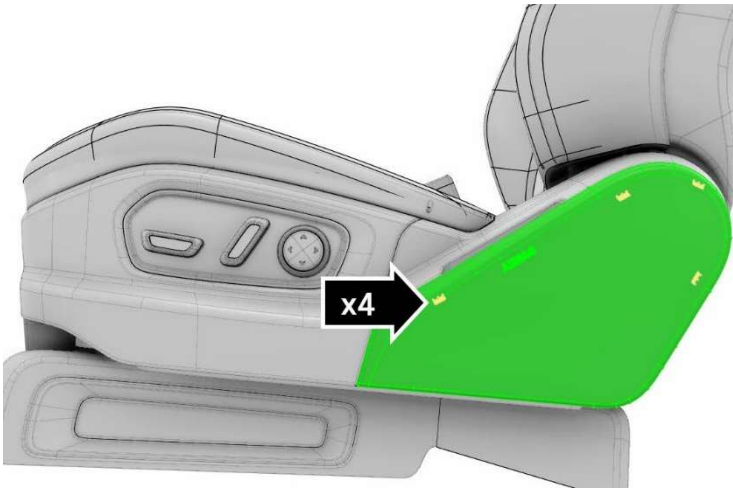

Figure 5
1. Unlatch the top of the safety belt anchor trim by gently pry the highlighted clips loose. (Figure 5)